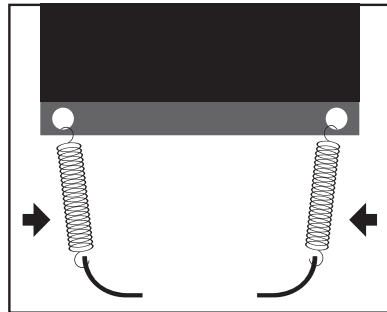

Fig. 25
4. Fasten the flexible seal with springs to the bottom of the column (Fig. 25).